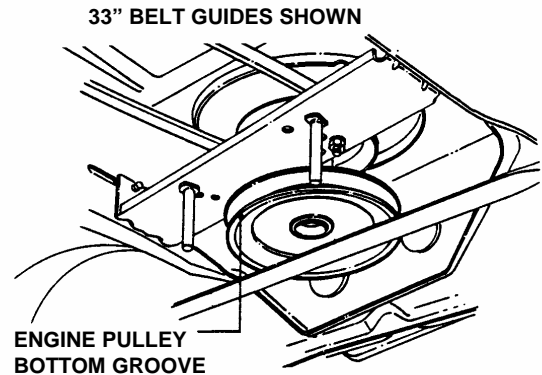

FIGURE 4.25
- Remove deck drive belt from engine pulley bottom groove. See Figure 4.25.